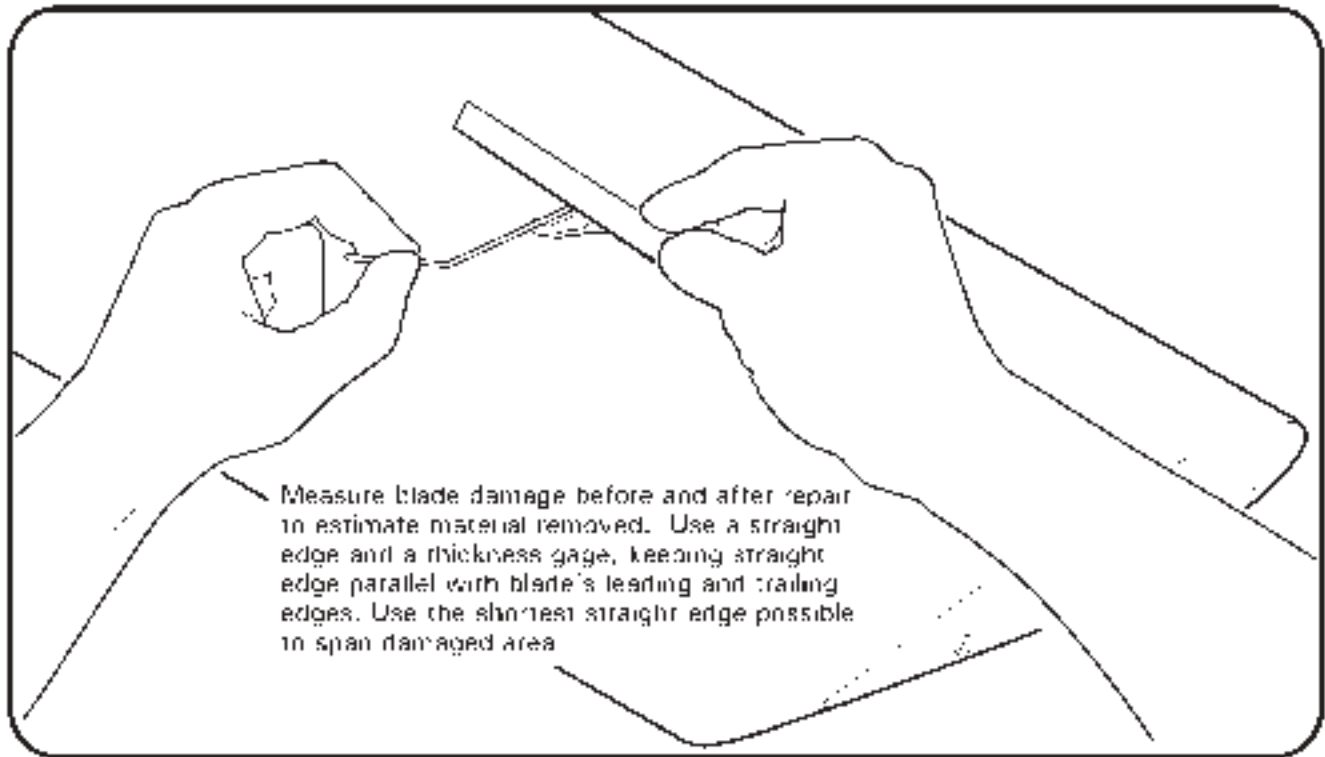

FIGURE 9-10 MEASURING MAIN ROTOR BLADE DAMAGE
1. Refer to Figure 9-10. Measure blade damage using a straight edge and a thickness gage. Keep straight edge parallel with the leading and trailing edges.